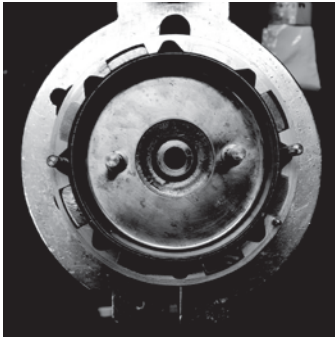

Fig. 1
1. Remove your existing base, then remove the existing fixed advance assembly out of the advance cup by removing the retaining e-clips (Fig.1). Give the two studs a wiggle to make sure they are being held solidly in place. If the studs are loose the magnet assembly must be removed and new studs put in place.